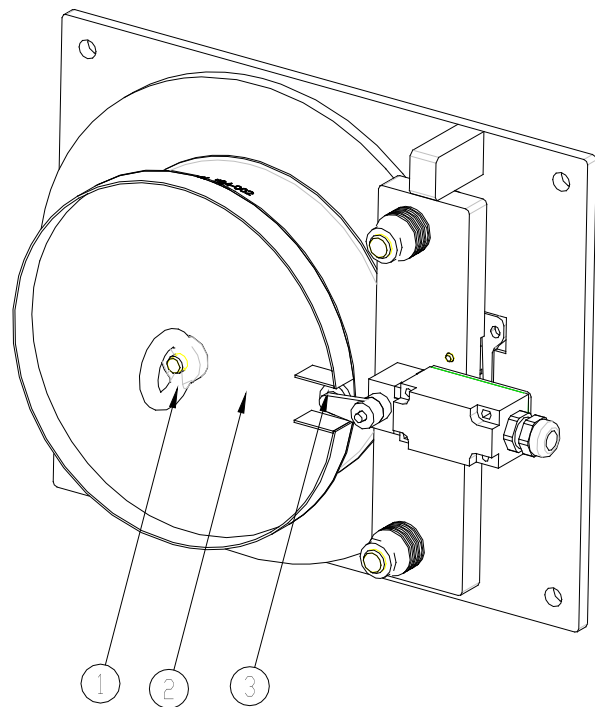

Fig.K.08. Resetting the safety device
5. Unscrew eyebolt (1-fig.K.08) from the safety device and turn disk cover (2-fig.K.08) until the head of the limit switch is free (3-fig.K.08). This action serves to reconnect power to the machine.
6. Retighten eyebolt (1-fig.K.08).